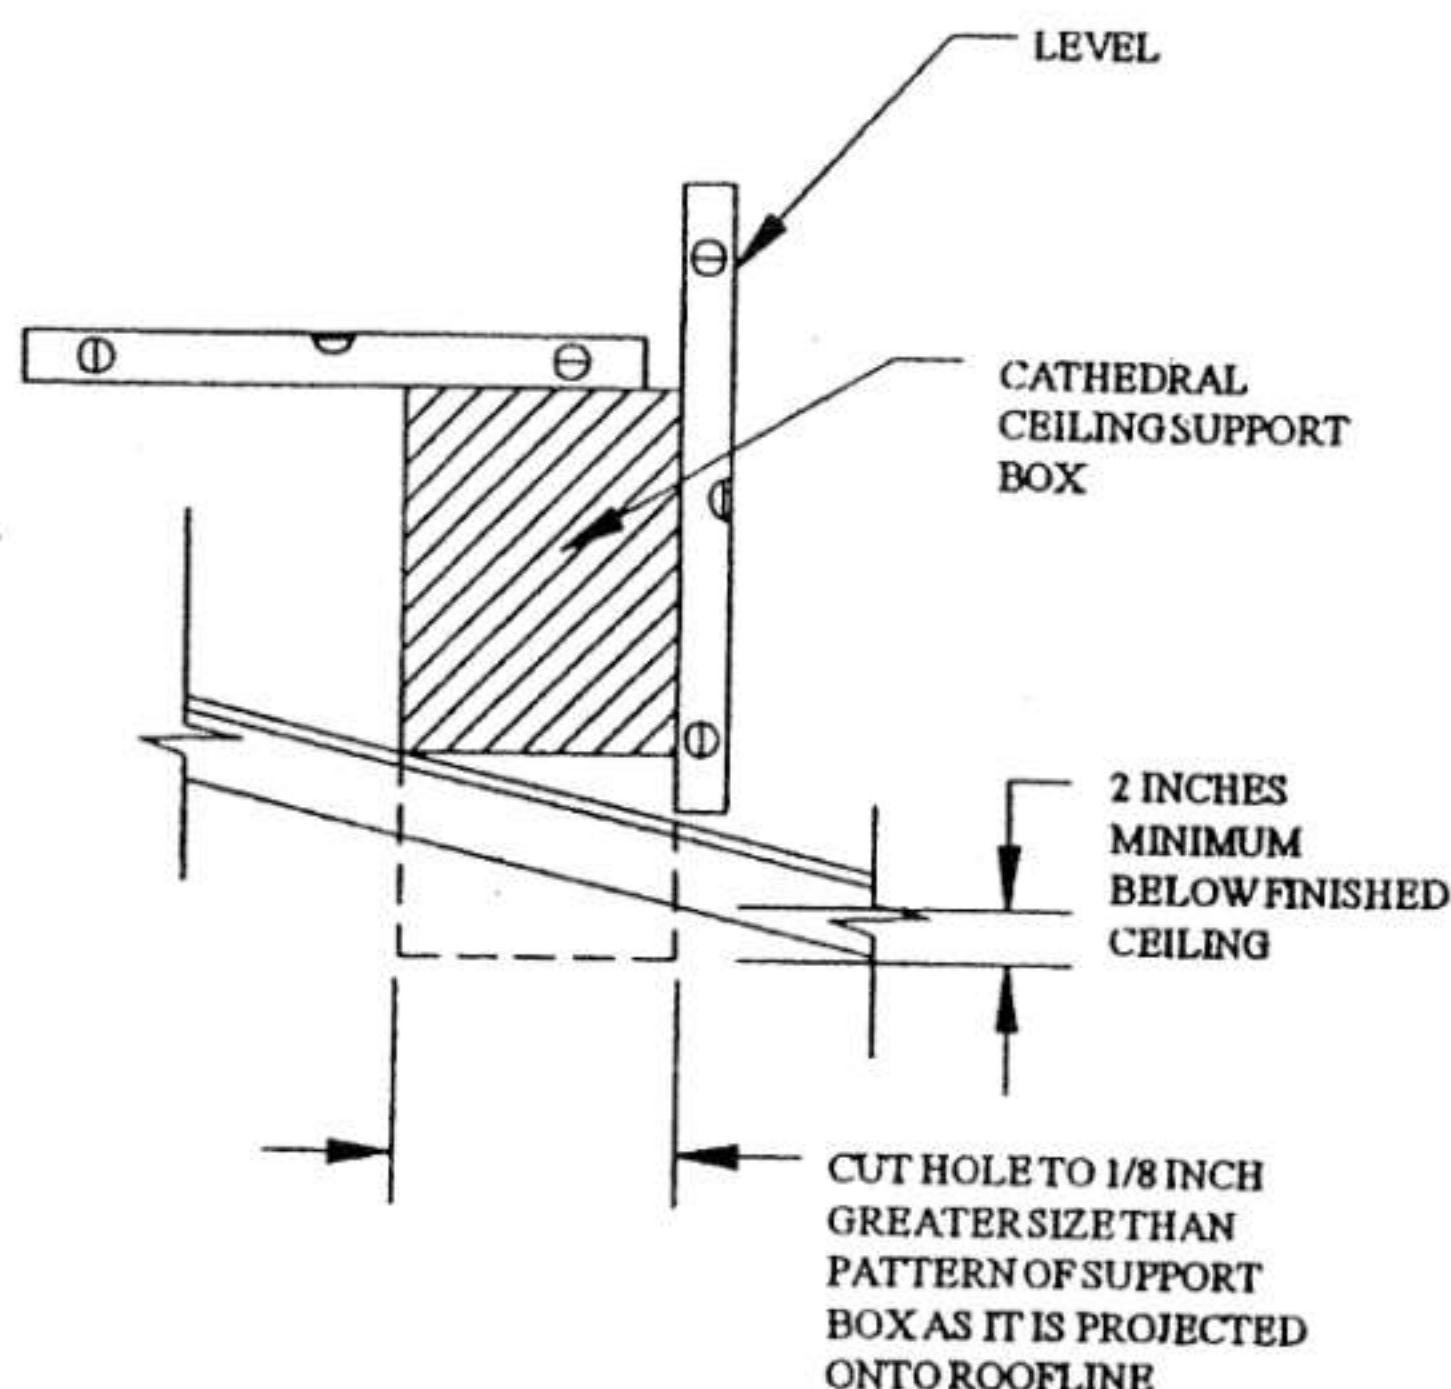

Fig. 12
- 4) Lower the Support Box through the hole in the roof until the bottom of the Support Box protrudes at least 2 inches below the ceiling. Fig. 12. Align the Support Box both vertically and horizontally with a level. Temporarily tack the Support Box in place through the inside walls and into the roof sheathing.